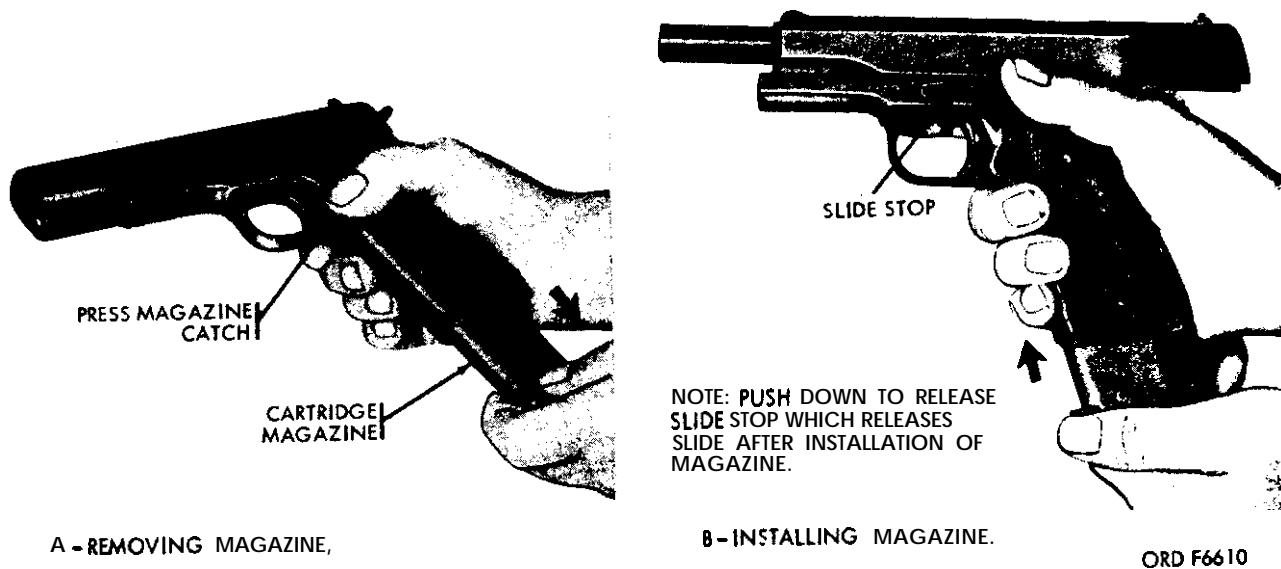

Figure 16. Remove/install cartridge magazine.
Refer to figure 16 for removal of cartridge magazine.
**Refer to** figure 16 for installation Of magazine.